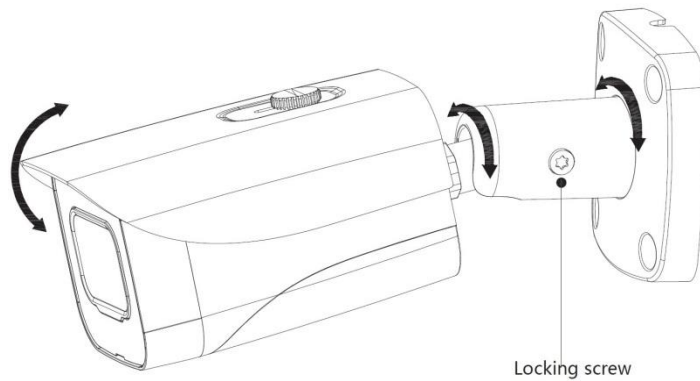
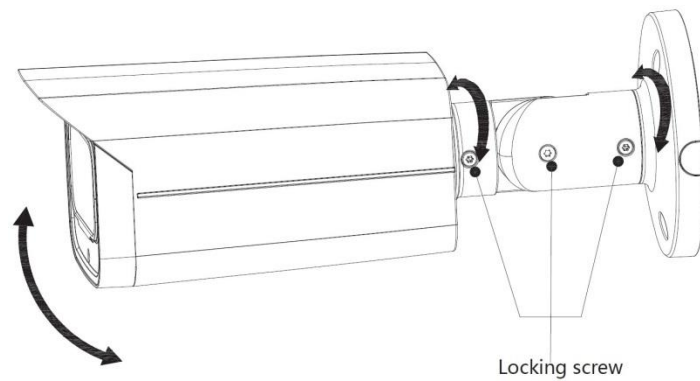

Figure 3-3
Figure 3-4
- Step 1** Drill screw holes (and the cable outlet hole if it needs to go through the mounting surface) on the mounting surface⑤ as indicated on the positioning map.
- For masonry mounting surface, insert expansion bolts④ from the accessory pack in the screw holes.
- Step 3** Adjust the location of the bracket③ according to cable outlet requirement (top out or side out), and then pull the cable out through mounting surface or the side cable tray.
- Step 4** Align the screw holes on the bracket③ to those on the mounting surface, then put in and fasten the supplied self-tapping screws② to attach the device① to the mounting surface.
- Step 5** Connect the camera to power source and the XVR device, and then aim the lens to the ideal angle, see Figure 3-3 or Figure 3-4.